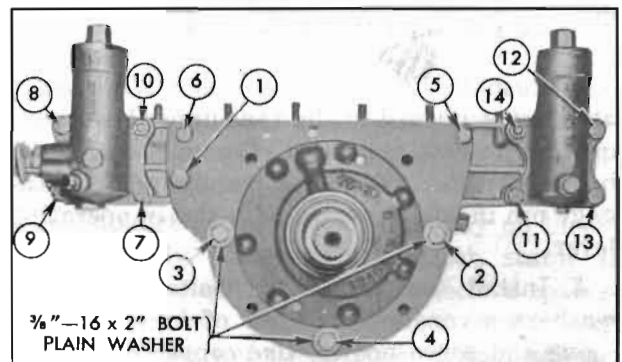

Figure 5-97—Reaction Shaft Flange and Accumulator Bolt Tightening Sequence
5. Install 3 special bolts ($\frac{3}{8}$ "-16x2") with plain washers in positions marked 2, 3, 4 in figure 5-97. These bolts are for assembly purpose only. Install regular pump cover bolts and lockwashers at positions marked 1, 5, 6. Coat threads of bolt No. 5 with Permatex No. 3.
14. Referring to figure 5-97, tighten all bolts and nuts (1 through 14) to 5 ft. lbs. torque in the numerical sequence shown. Following the same sequence again, tighten bolts 1 through 4 to 35-40 ft. lbs. and the remaining bolts and nuts to 20-25 ft. lbs.